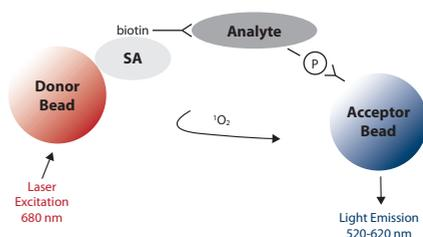

Fig. 1: Assay Principle of the AlphaScreen® SureFire® Phospho-ERK1/2 assay.
The AlphaScreen® assay uses the diffusion of singlet state oxygen from Donor to Acceptor beads. Upon excitation at 680 nm of Donor beads ambient oxygen is converted into singlet oxygen released at a rate of up to 60,000 molecules per second. Singlet oxygen molecules have a short lifetime [4 µs in aqueous solutions] and diffuse of no more than 200 nm. When a biomolecular interaction brings the Donor and Acceptor beads in proximity, the singlet oxygen reaches the Acceptor bead and a cascade of chemical reactions is initiated producing a greatly amplified luminescence signal in the range of 520 – 620 nm. The AlphaScreen® SureFire® ERK1/2 phosphorylation assay is based on an immuno-sandwich assay principle (Figure 1). A phosphorylated cellular protein (analyte) is sandwiched between a streptavidin (SA)-coated Donor bead associated with an analyte antibody and a Protein A-conjugated Acceptor bead associated with an anti-phospho specific antibody. Phosphorylation of the analyte results in an increase in the luminescence signal.